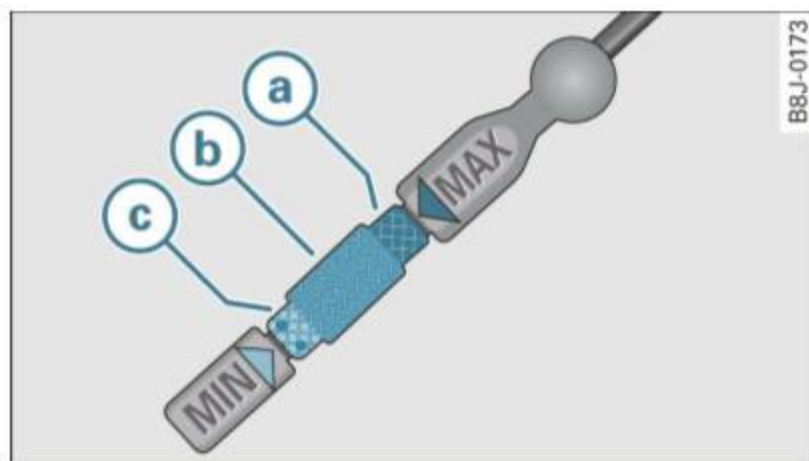
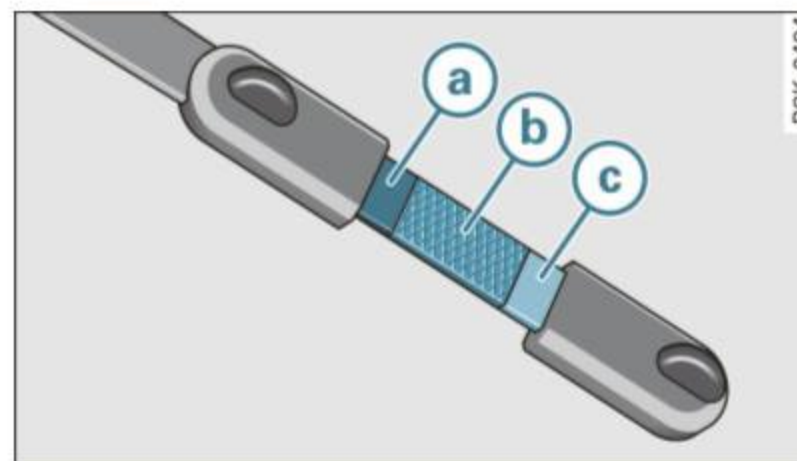

Fig. 202 Illustration of principle 1: Markers on oil dipstick
Fig. 203 Illustration of principle 2: Markers on oil dipstick
- Pull it back out and read off the oil level ⇒ fig. 202 or ⇒ fig. 203. Top off the engine oil, if applicable ⇒ *page 264*.